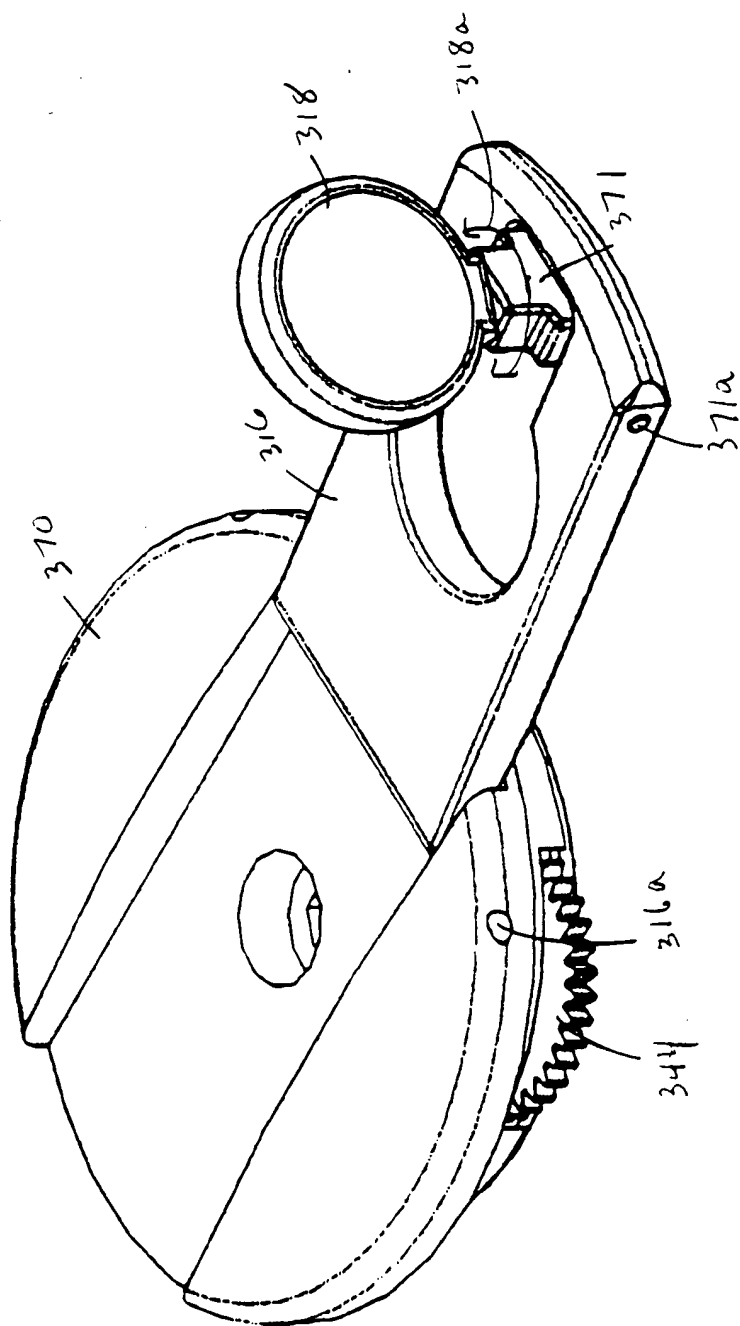

Fig. 18
Fig. 19 is a perspective view of the gear assembly from Fig. 18. It shows the internal gears (344, 348, 350, 352) and the housing (340, 346, 350). The gears are arranged in a planetary configuration, with the central gear (344) being the input and the outer gear (352) being the output. The housing (340, 346, 350) is shown in a perspective view, highlighting the internal components and the mounting structure.